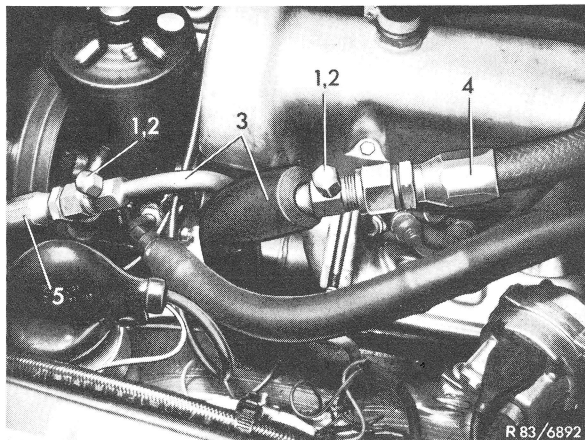
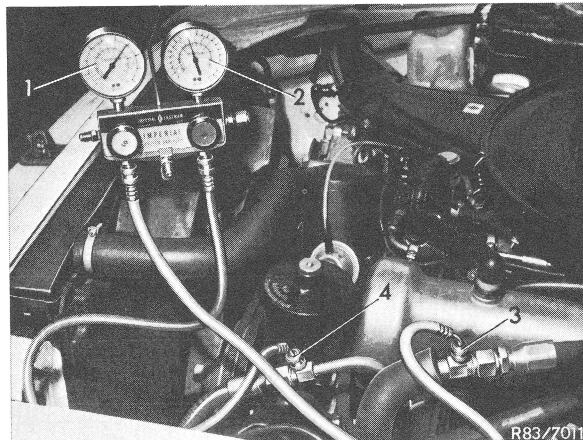

Figure 3
Figure 4
8 Unscrew caps (1) on pipeline (3) (Figure 3). Then connect hose line from gauge set to service valves (3 and 4). Make sure that the connecting nipple of the hose lines has a pressure pin in center (Fig. 4).